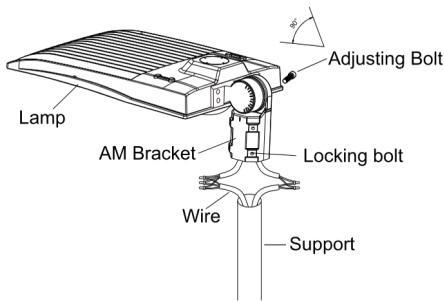

Figure 1
1.ADJUSTABLE FITTER MoUNTING (AM)
- Step 1:Loosen the four bolts on AM bracket, connect the wires correctly, and pull the wires into the poles.(Figure 1)
- Notice: Adjustable angle is 0-90°(Figure 1)